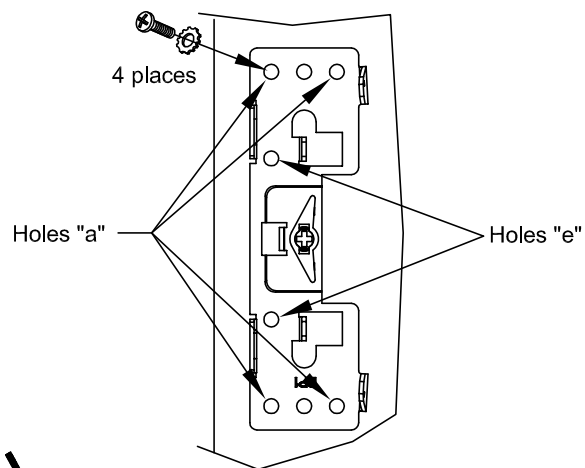

Fig. 4
1. (Fig. 4) Install the backplate using holes "a" with the screws and lockwashers according to the Pilot/Drill/Tap/Screw chart .